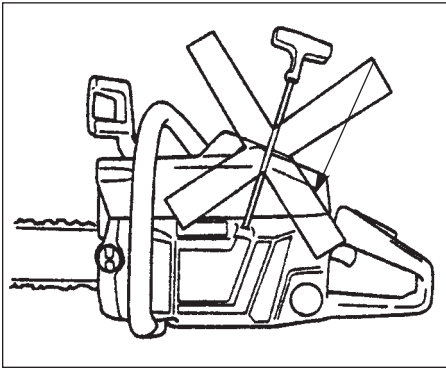

Figure 3. Do not release the starter handle from the fully pulled-out position because doing so can damage the saw.
- Be sure the cord returns all the way in. Do not let it slap (Figure 3).